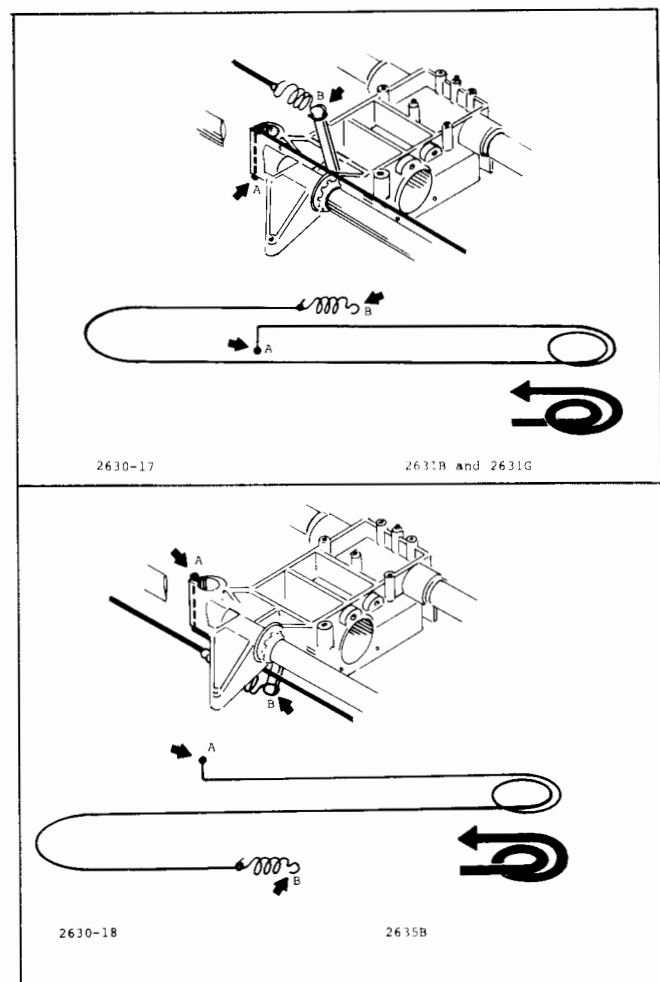

Figure 4-10 Ribbon Drive Cable Installation
- b. Place the opposite end of the spring over the post at the top front (bottom front of 2635B) of the carriage (see Figure 4-10).